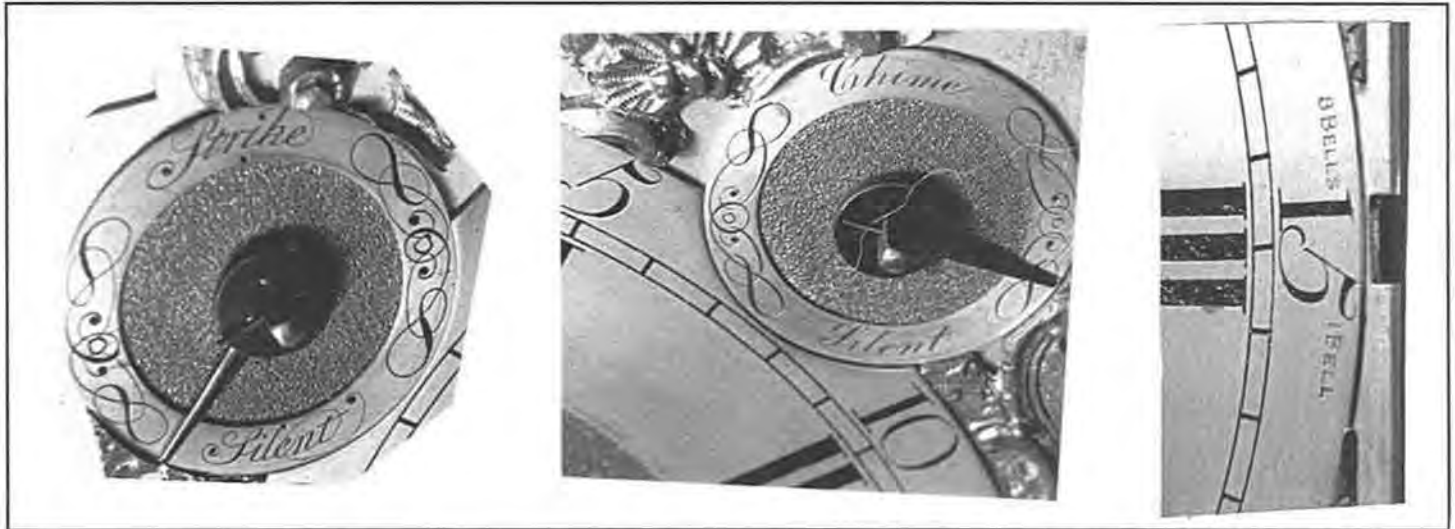

Figure 36.1. The Dial Controls
37.8. Install the dial (Figures 36.1, 36.2).
37.8.1. Rotate chime/silent dial arbor (shown in Figure 36.1 but not numbered) so that the chime/silent actuator pin (2) is in the 12 o'clock position.
37.10. Install the dial. (Figures 36.1, 36.2, 36.3).